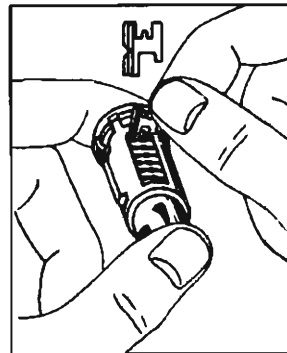

Fig. 16—Inserting Tumbler
1. Hold cylinder with head of cylinder away and starting at the head of the cylinder, insert the tumblers in their proper slots in the order called for by the code, ribbed side toward you and long point down (fig. 16).